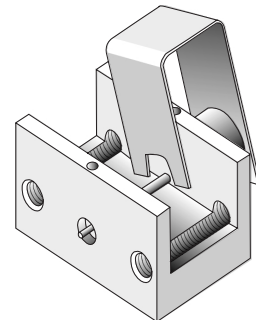

Figure 5. Glass Bead Holding Fixture Secured with Spring Clip
- Hold the holding fixture in place by using the spring clip furnished with the fixture (Figure 5) or the K104 outer conductor (Figure 1). If spring clip is used, position it so as not to obstruct the solder access hole in housing. Ensure that glass bead is centered, and that it is making good contact with microstrip.